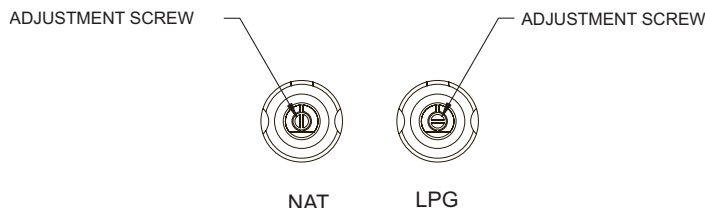

Figure 38
7. The low input adjustment screws are located inside the two valve stems. Use a small screwdriver to turn each adjustment screw clockwise 1/4 turn (90 degrees). When valves are in the "OFF" position, the slot in the adjustment screw should be vertical. **See Figure 38.**